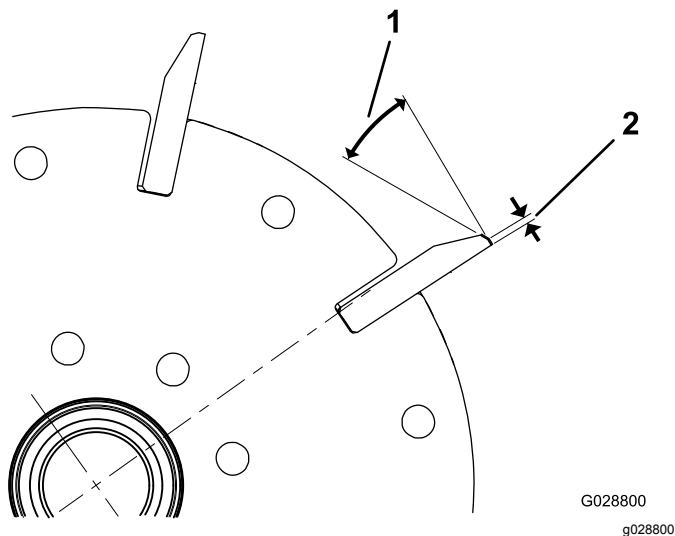

Figure 25
1. Apply a 30 degree relief grind on all reel blades until the land width is 1.3 mm (0.050 inch) wide (Figure 25).